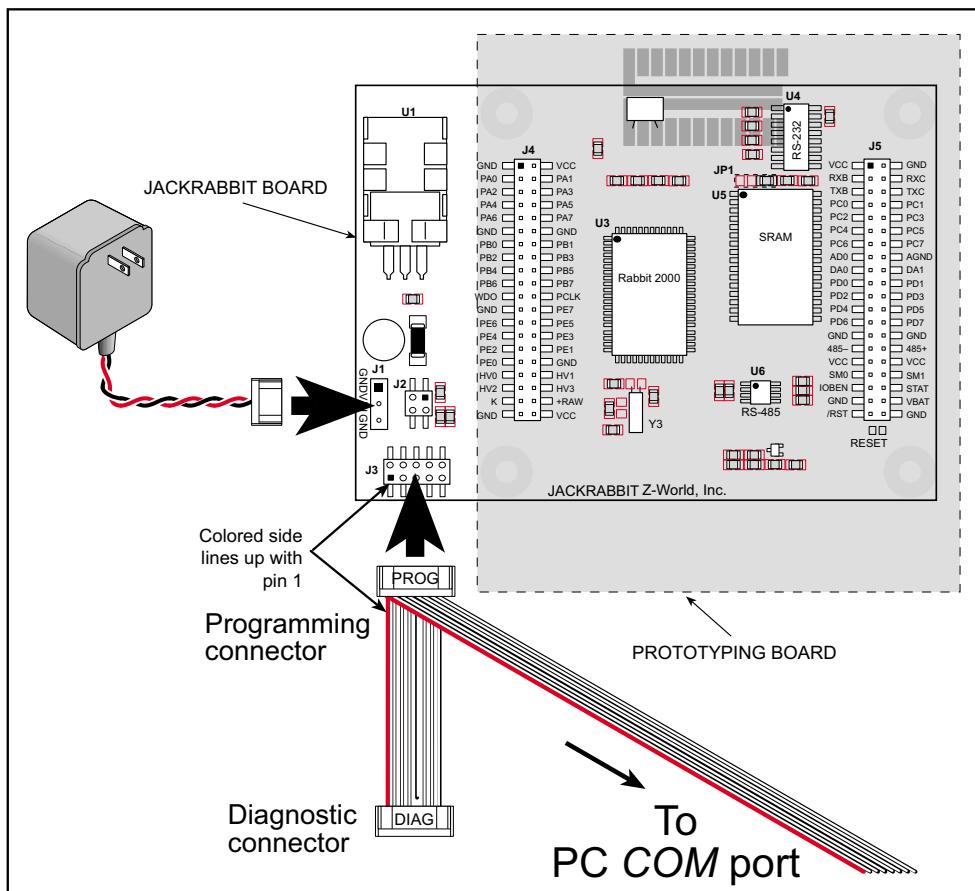

Figure 3. Power and Programming Cable Connections to Jackrabbit Board
Connect the 10-pin connector of the programming cable labeled **PROG** to header J3 on the Jackrabbit board as shown in Figure 3. Be sure to orient the marked (usually red) edge of the cable towards pin 1 of the connector. (Do not use the **DIAG** connector, which is used for a normal serial connection.)
Hook up the connector from the wall transformer to header J1 on the Jackrabbit board as shown in Figure 3. The orientation of this connector is not important since the VIN (positive) voltage is the middle pin, and GND is available on both ends of the three-pin header J1.
- The programming cable must be connected to the Jackrabbit board. (The colored wire on the programming cable is closest to pin 1 on header J3 on the Jackrabbit board, as shown in Figure 3.) The other end of the programming cable must be connected to the PC serial port. The COM port specified in the Dynamic C **Options** menu must be the same as the one the programming cable is connected to.